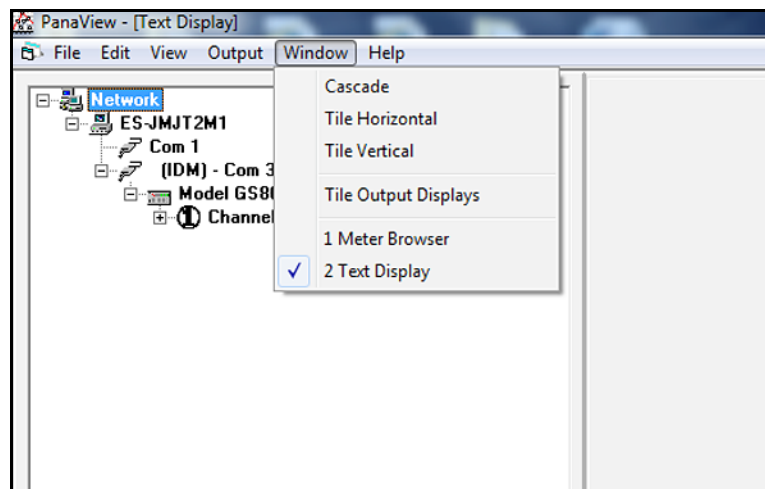
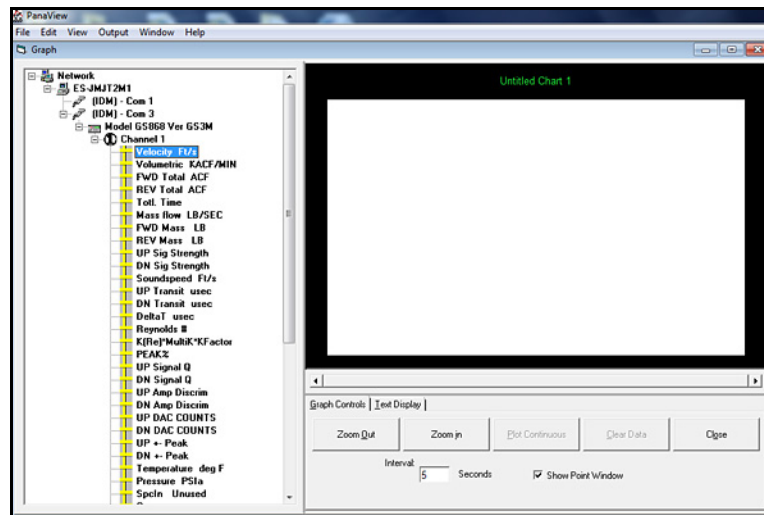

Figure 58: The Window Menu
Figure 62: The Graph Window
- To rearrange the two open windows, open the “Window” menu (see Figure 58 below).
Note: After resizing or removing any of the multiple text screens, the default tiled layout may be restored by opening the "Window" menu (see Figure 58 on page 49) and clicking on the "Tile Output Displays" option.
3. Arrange the multiple "Text Display" windows as desired via the "Window" menu (see Figure 58 on page 49).
3. Using the “Window” menu, as shown in Figure 58 on page 49, arrange the open windows in the desired format. Figure 62 below shows the “Graph” window in its maximized (full-screen) size.
The “Graph” window shown in Figure 62 on page 54 has three panes:
2. After you have finished creating the desired graphs, click the [Close] button in the lower right pane of the "Graph" window (see Figure 62 on page 54).